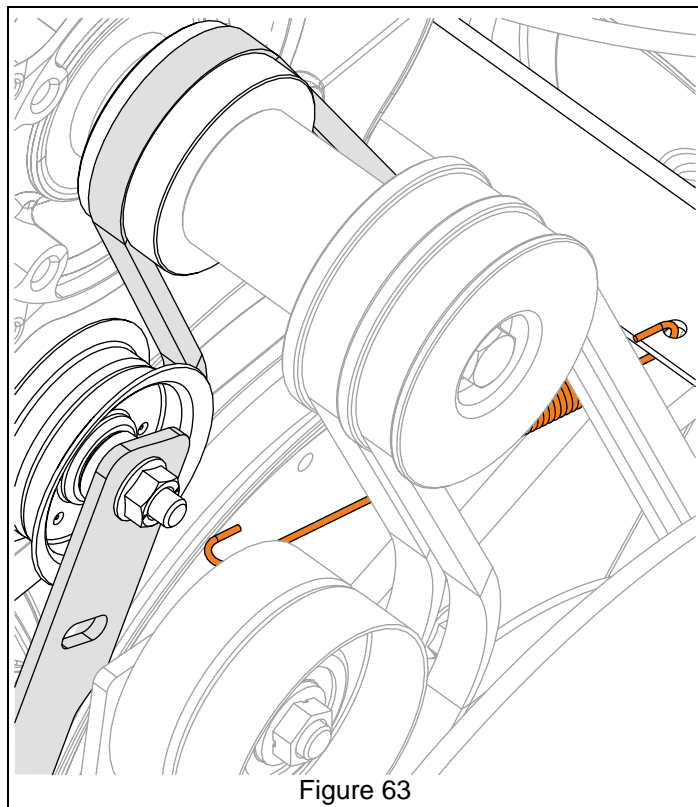

Figure 63
6. Disconnect idler spring from traction drive idler arm and remove spring. See Figure 63.